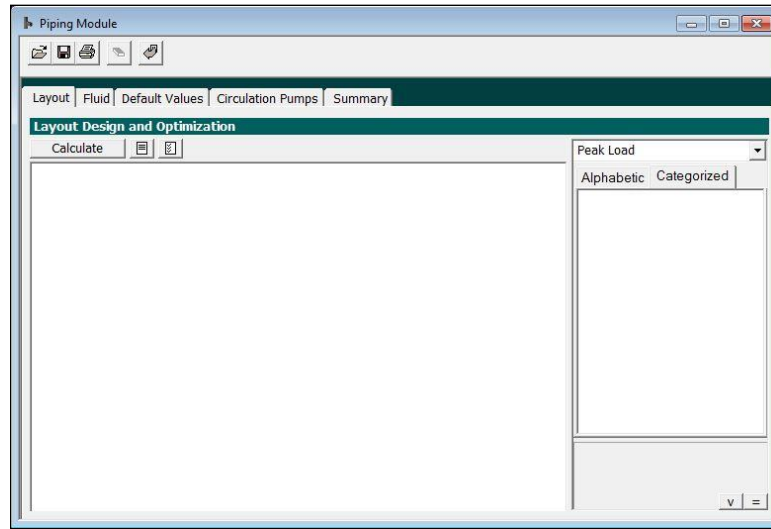

Fig. 11.43 Adjust the Relationship between the Two Main Windows
3) The designer can drag the Property Window to the right or left to provide more or less Layout Manager Workspace area as needed. To do so, the user needs to be in the primary Toggle View as can be seen in figure 11.19. The user can then move the mouse to the vertical bar that separates the Layout Manager Workspace from the Property window and click and drag to move the bar either left or right. An example of such an adjustment can be seen in figure 11.43.